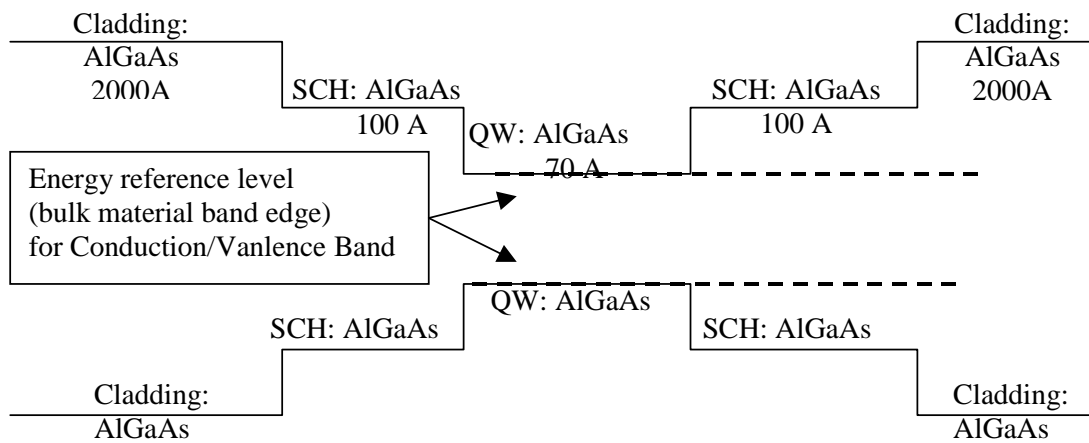

Figure C.1.1. Energy band diagram for the simple quantum well structure
This is a simulation of a five-layer laser structure that contains a single quantum well (QW), two separated confinement heterostructure (SCH) layers, and two cladding layers as shown in Fig. C.1.1.